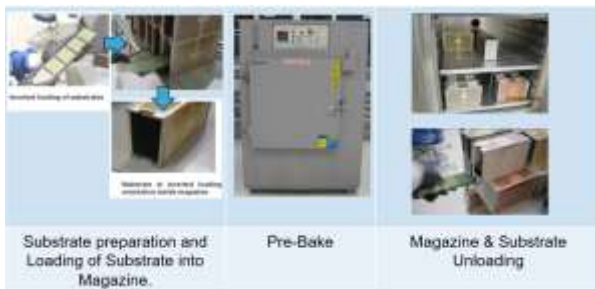

Fig. 2. Substrate pre-bake process.
- Substrate pre-bake in Fig. 2 is a sub-process step wherein substrate were subjected to prebaking to remove moisture on material as part of material preparation